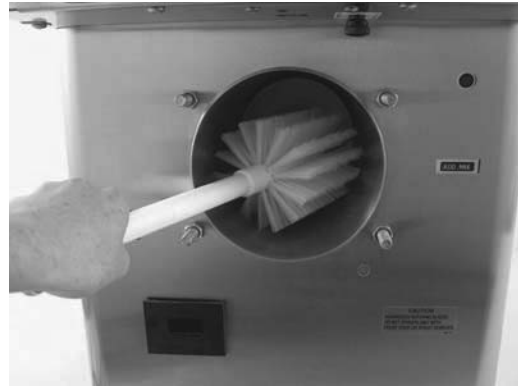

Figure 3-8 Brush Freezing Cylinder
- D. Wash the hopper and freezing cylinder with the 90° to 110°F (32° to 43°C) detergent water and brushes provided (Refer to Figure 3-8).